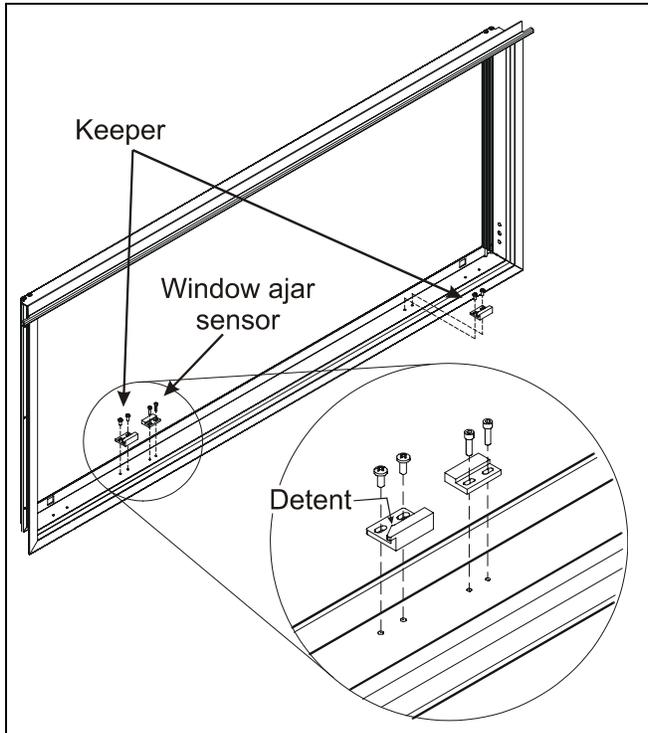

FIGURE 2
4. Remove the 2 existing keepers (figure 2).
5. Install the new keepers. Do not fully tighten the keeper fasteners at this moment (figure 2).